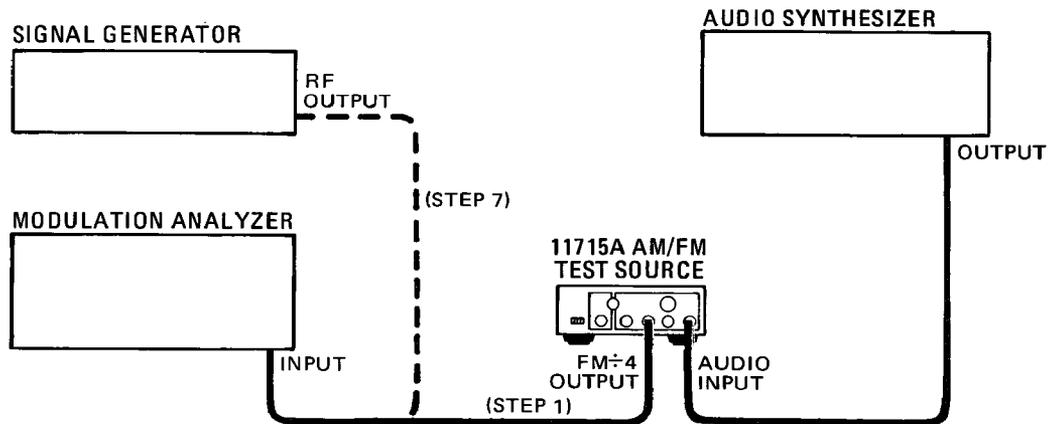

Figure 4-4. Calibration Test Setup
1. Connect the equipment as shown in Figure 4-4.